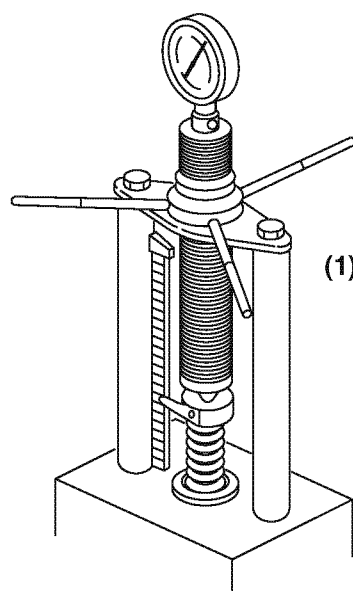

Figure 5-23
4. Measure spring tension using a spring tension gauge (Figure 5-23, (1)).